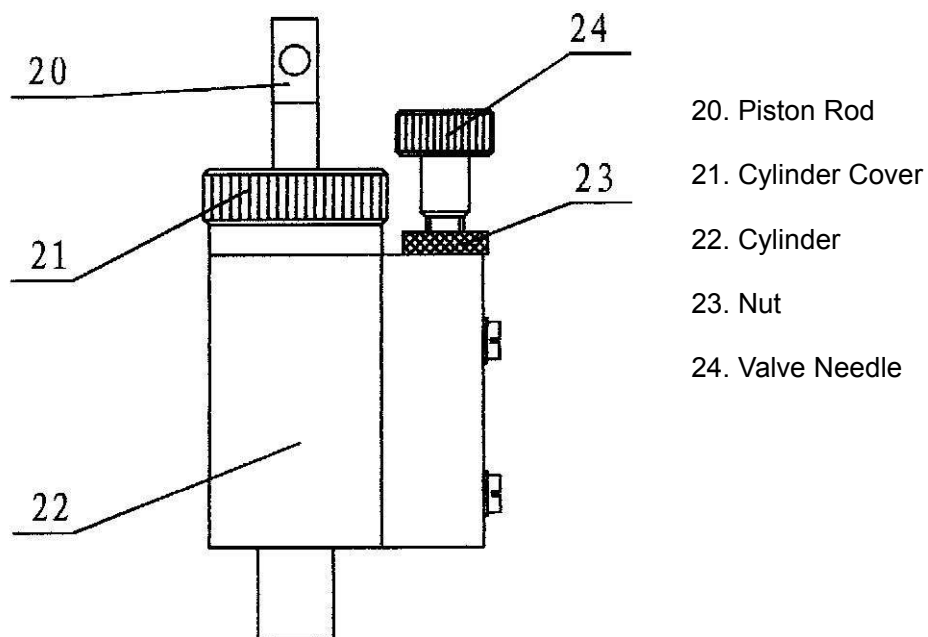

Figure 4
4.6 How to fill oil in the buffering device (figure 4)